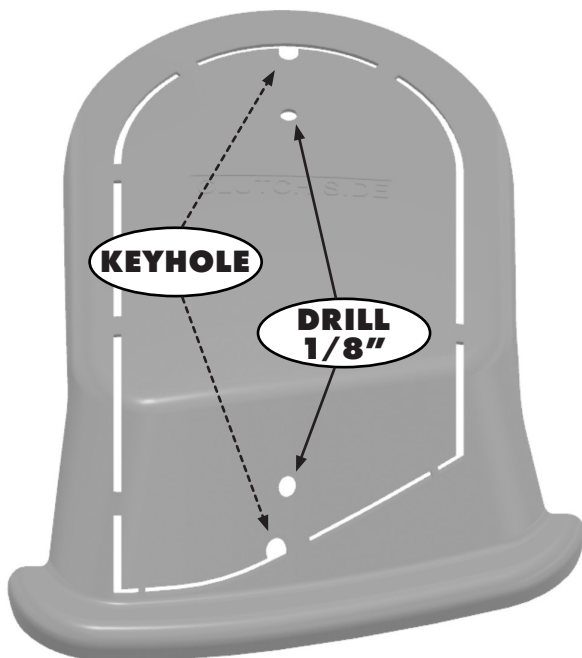

Figure 1.3
- Step #2: Using Fig 1.3, put the correct template on the correct lid and drill through the 2 holes in the template using a 1/8" (3mm) drill bit. Locate 2 of the supplied "pointy" ended screws and using hand tools, secure the template to the lid. You will also see "keyhole" shapes in each template where you will start to cut when its time. Drill a 1/8" (3mm) "starter hole" in each of these key holes and then enlarge these holes to 5/16" (8mm)